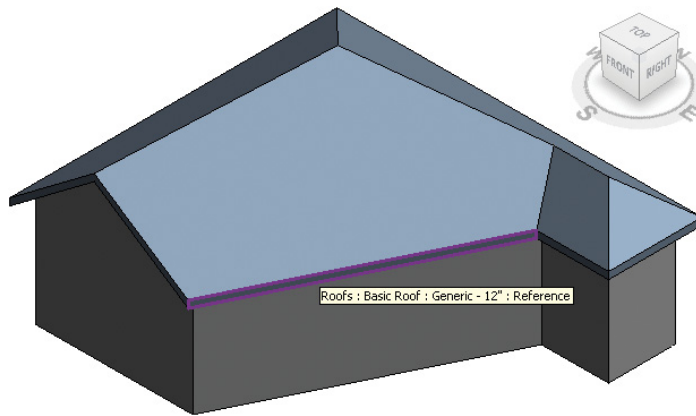

FIGURE 3.24 Selecting the roof face
1. Select the Roof By Extrusion command from the Roof flyout on the Architecture tab. You're immediately prompted to select the plane from which the extruded roof will spring. Select the roof face highlighted in Figure 3.24.